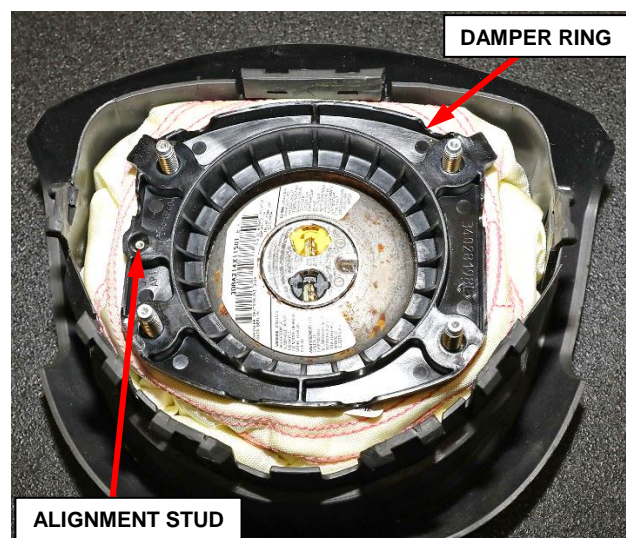

Figure 19 – Damper Ring (KA) Only
2. (KA) **Dodge Nitro**, if equipped, Install the plastic damper ring. Ensure the ring is properly aligned with the alignment stud (Figure 19).